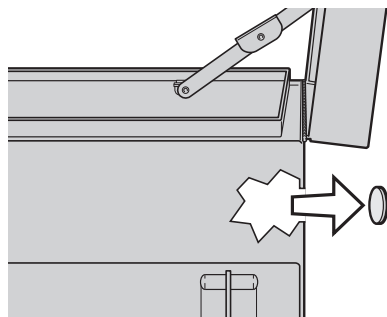

Figure 1, Side View
2. With a screwdriver and hammer, carefully punch out the "knockout" from the inside of the box so that metal ring will fall outside box (figure 1).